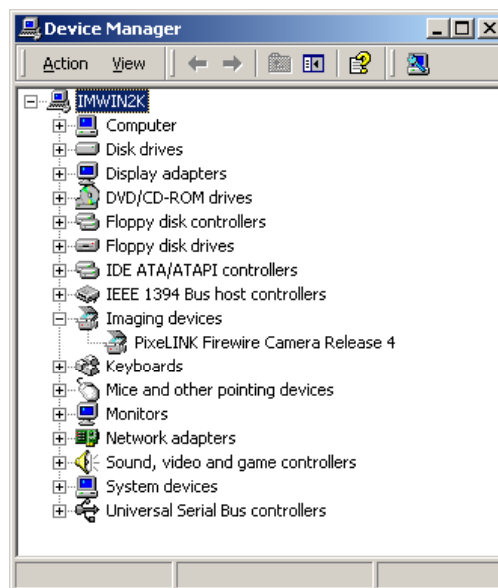

Figure C.2 Checking the Imaging Device Driver
- 5) One of the categories should be **Imaging Device** or **Imaging Devices**. Click the plus sign to the left of the category name. If "PixelINK FireWire Camera Release 4" appears, the driver is installed correctly (see Figure C.2, below).